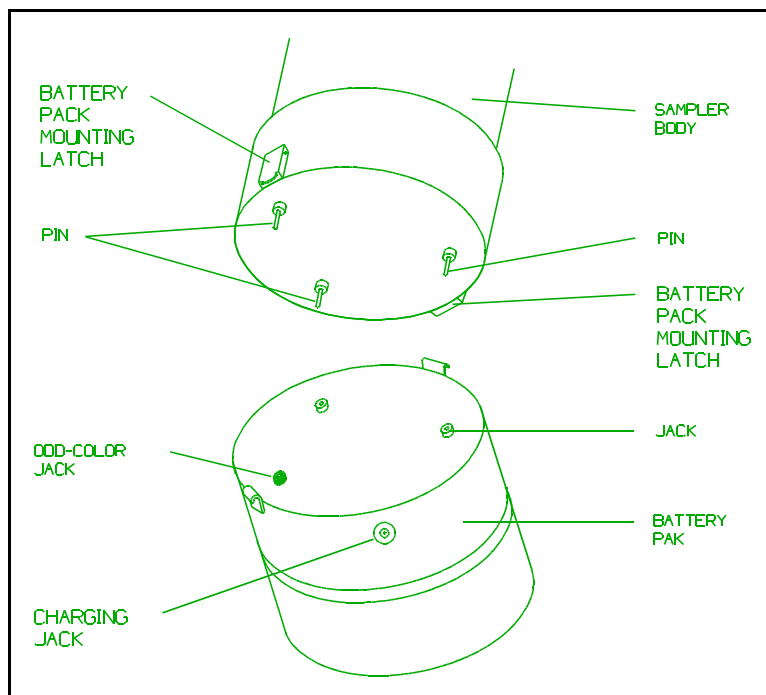

Figure 2.1. Attaching Battery Pack
2. Lift the sampler over the battery pack and carefully insert the banana pins extending from the sampler bottom into the sockets on the top of the battery pack. The pins are unevenly spaced and can fit only one way—**the pin closest to a latch on the sampler body inserts into the odd colored receptacle on the battery pack** (see Figure 2.1).